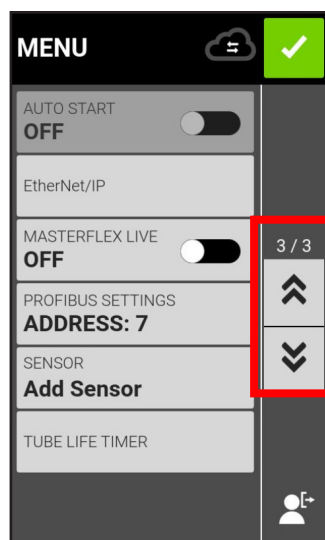

Figure 5
2. The **Menu** screen displays (see Figure 5 below).